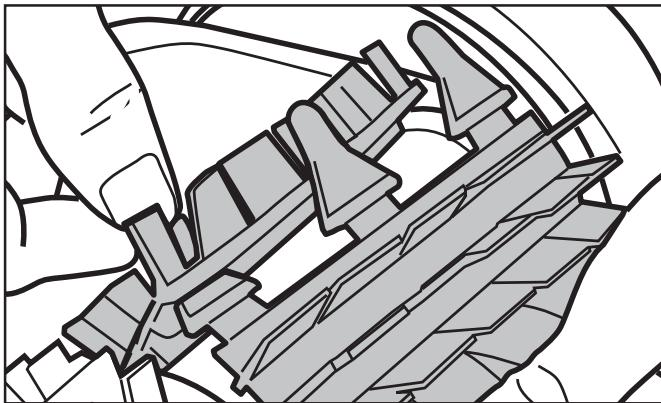

Figure 21. Pull Tabs Through Each Slot
3. Thread each tab into the slot provided and gently feed it through until the heel comes out at the other side of the slot (Figure 21).